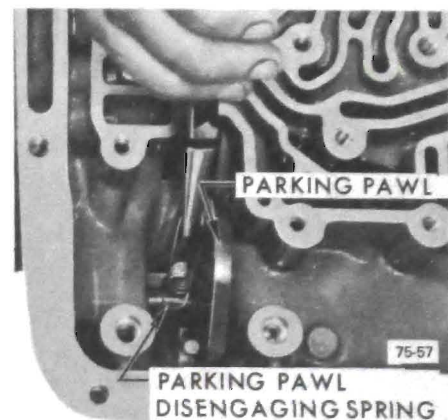

Figure 75-278
4. Install parking pawl disengaging spring, square end hooked on pawl. See Figure 75-278.